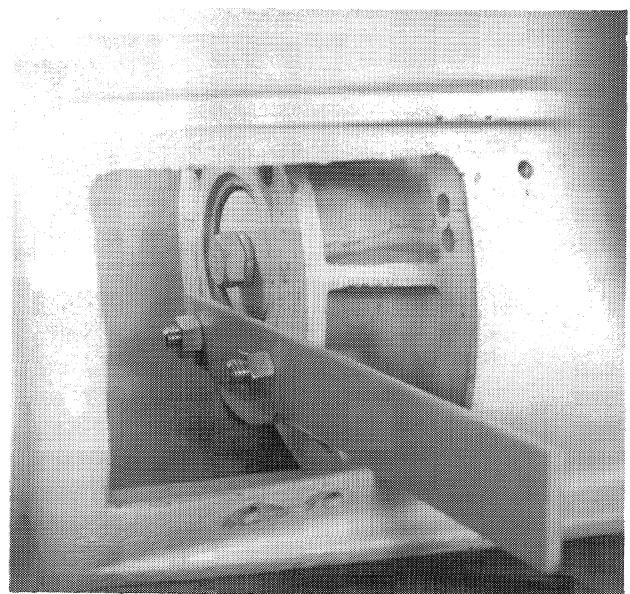
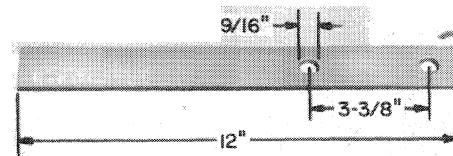

FIGURE 1-18
FIGURE 1-19
SPECIAL TOOLS - See Figure 1-19.
2. Remove the nut, I. The shaft can be prevented from turning by bolting a bar to the sheave as shown in Figure 1-18. See Figure 1-19 for dimensions of bar.
5. Install the bar, Figure 1-19, and then install the drive ring.